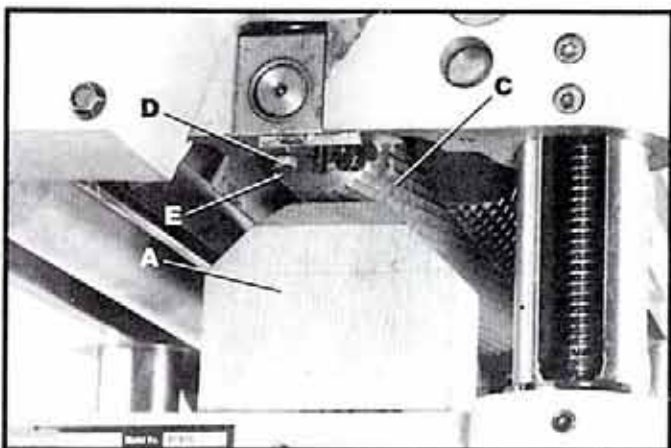

Fig. 39
4. Move the gage block (A) Fig. 39, minus the feeler gage, under one end of the infeed roll (C). The bottom of the infeed roll (C) should just touch the top of the gage block (A), as shown.
5. If the height of the infeed roll must be adjusted, loosen nut (D) Fig. 39, and turn adjusting screw (E) until that end of the infeed roll just touches the top of the gage block. Then tighten nut (D).